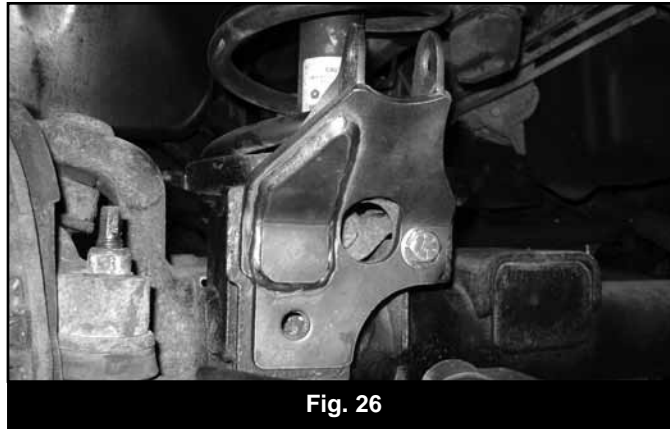

Fig. 26
67. Attach the bracket to the axle with the trackbar in position with new trackbar bolt and washer (14mm 03-07 / 16mm 08+) with factory nut tab, and $\frac{1}{2}$ " bolt (with loc-tite), with washer on the outside and square nut on the inside. The square nut will rest against the inside gussets of the axle and eliminate the need for a wrench. Tighten the $\frac{1}{2}$ " hardware to 65 ft-lbs. Do not tighten the trackbar mounting bolt at this time. (Fig 26)